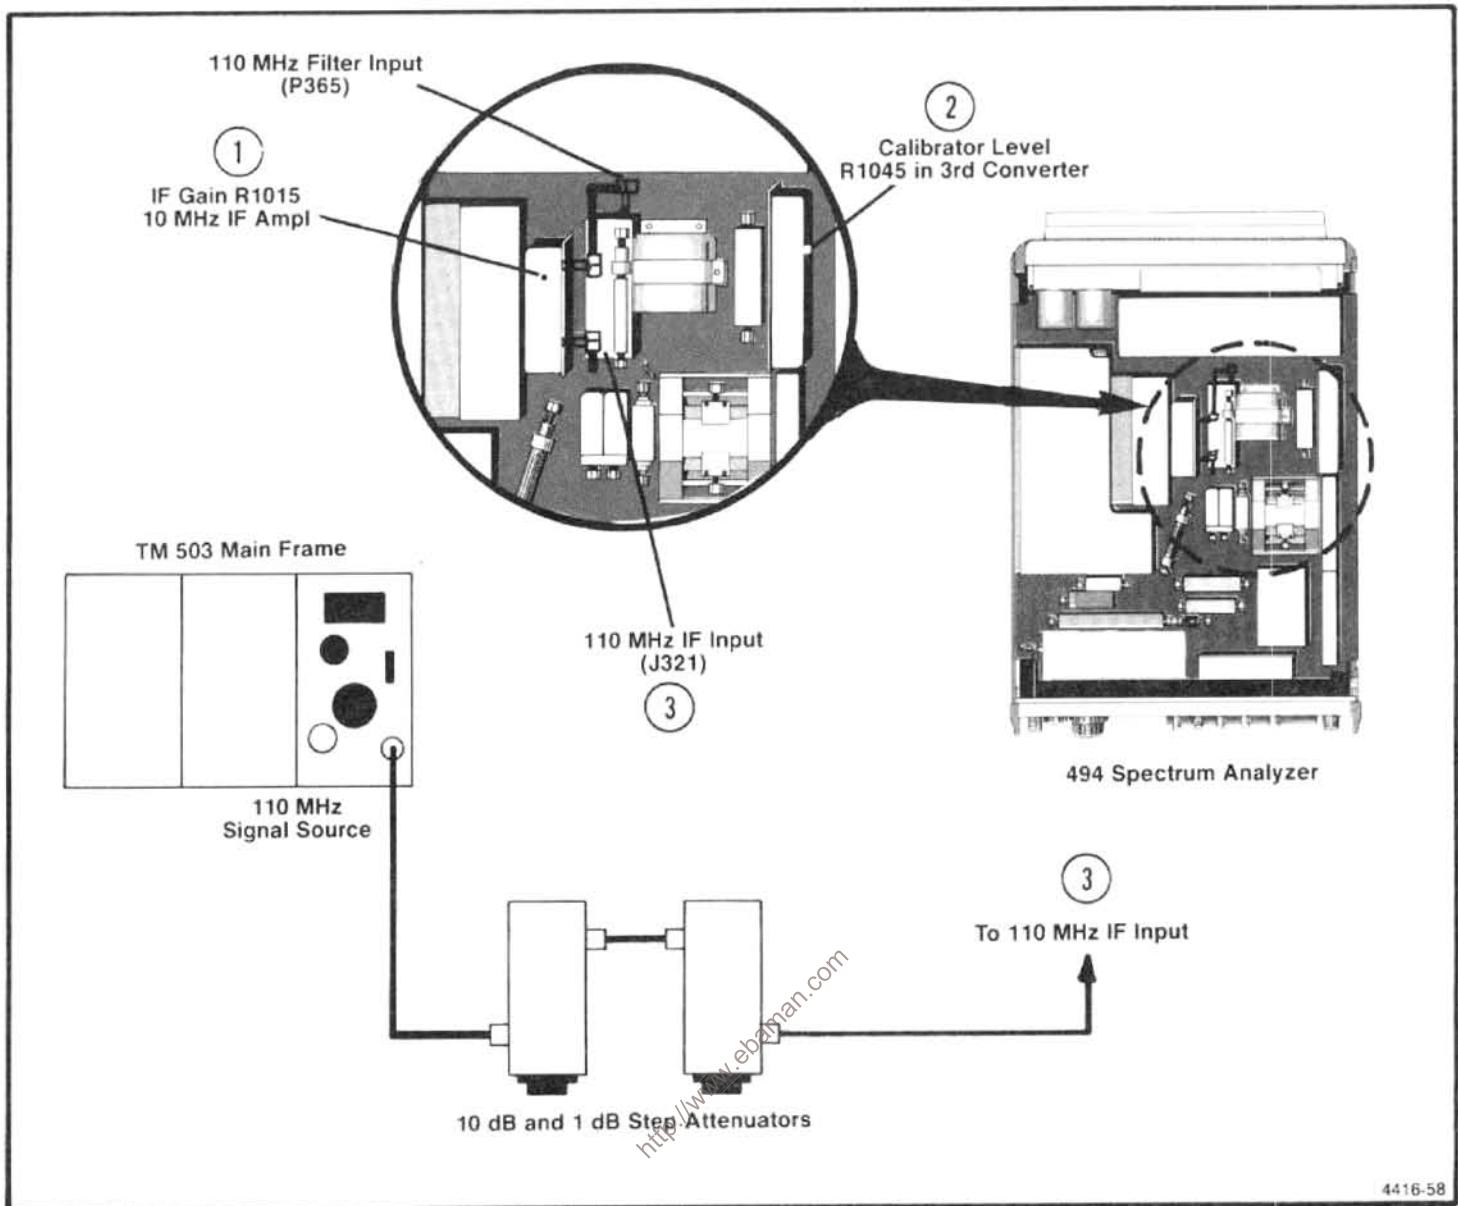

Figure 5-23. Test equipment setup for adjusting the IF gain and the location of adjustments and connectors.
The calibrator output level is calibrated to a known reference. The procedure for checking the level is described in the Performance Check section. Output level is adjusted with Cal Level R1041, in the 3rd converter (#2 in Figure 5-23).
a. Test equipment setup is shown in Figure 5-23. Set the RESOLUTION BANDWIDTH to 100 kHz, REF LEVEL to -20 dBm, and apply a -21.5 dBm, 110 MHz signal, through step attenuators, to the input (J365) of the 110 MHz filter.
d. Set the step attenuators for 21 dB attenuation and apply the 110 MHz signal to the input (J321) of the 110 MHz IF amplifier (Figure 5-23).